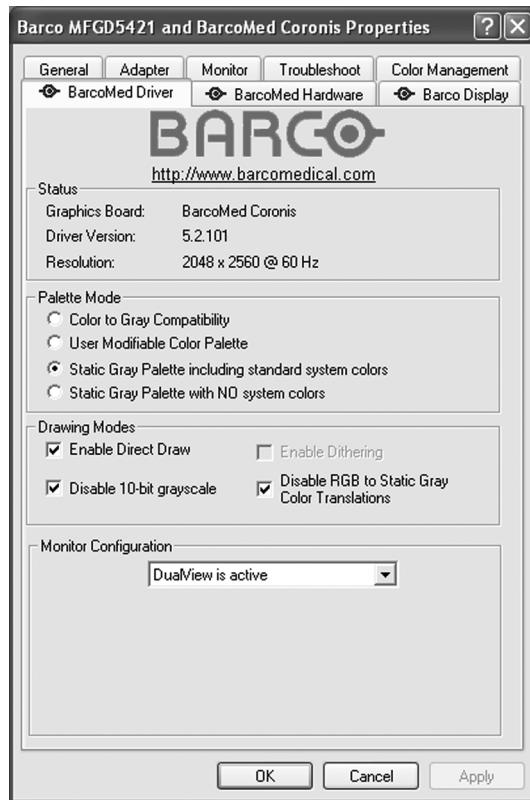

Figure 29: BarcoMed Driver Tab
2. Under Windows 2000 or Windows XP, click on “**Settings**” tab. Double click on the rectangle that represents the Barco display whose settings you wish to change to bring up its property page. Click on the “BarcoMed Driver” tab ( see figure 29).